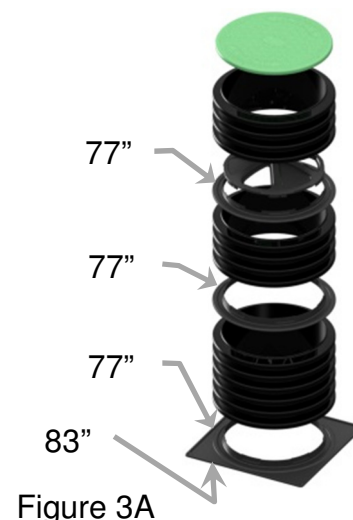

Figure 3A
- 1.) With the white tape upward, apply approximately 77" of butyl sealant rope (Figure 3A) around the perimeter of the adapter flange where the riser pipe will meet the flange (Fig.1) & (Fig. 2), overlapping and kneading the ends of the butyl rope together to ensure a water-tight seal.
- 10.) With the white tape upward, apply the butyl sealant rope around the groove on the bottom of the adapter flange (Figure 3A), overlapping and kneading the ends of the butyl rope together (Fig. 8).